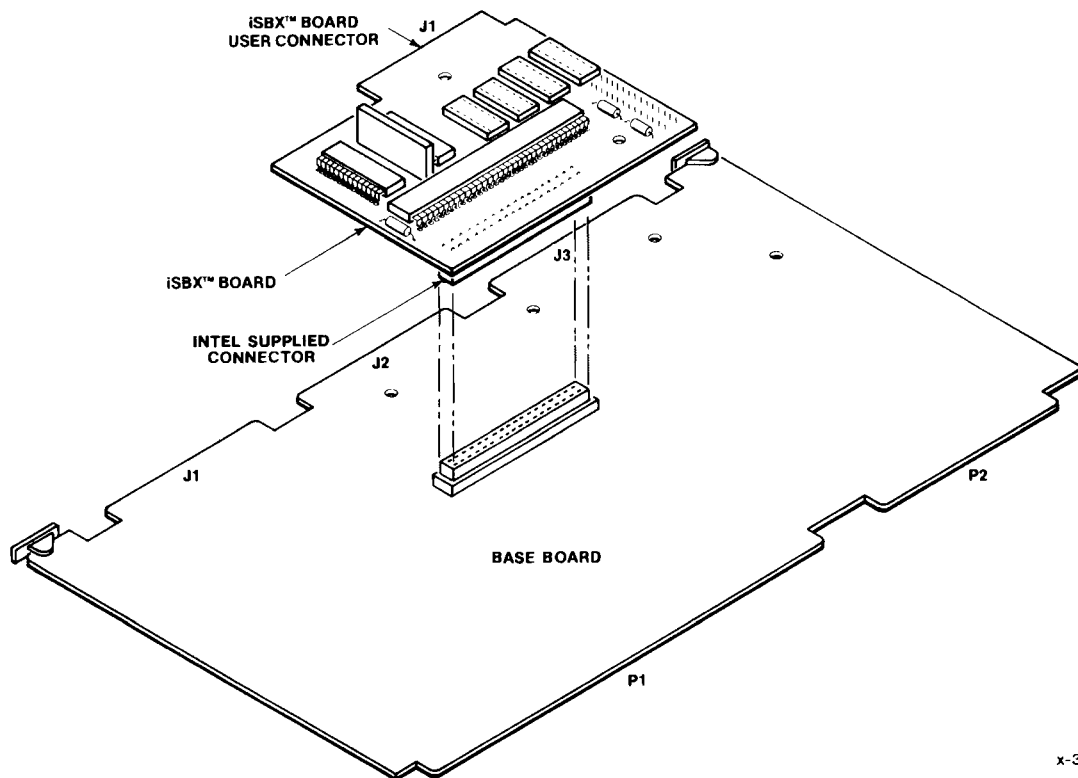

Figure 2-6. iSBX™ Board Installation
- c. Locate pin 1 on the host iSBX connector. Similarly, locate pin 1 on the iSBX 217B board iSBX connector. Refer to Figure 2-6.